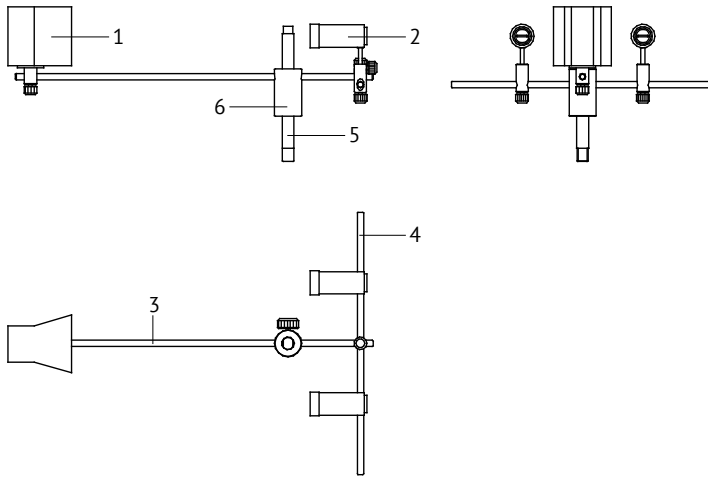

Fig. 9. Piston position control device:
6.20 Screw post 5 (Fig. 9) on the rear part of the piston position control device base.
6.21 Lock bush 6 (Fig. 9) at post 5.
6.22 Screen 1 is to be secured at one edge of rod 3 (Fig. 9) while rod 4 with illuminators is to be fitted at the opposite edge as shown in Fig 9. The position of illuminators should be adjusted so that outline of weights